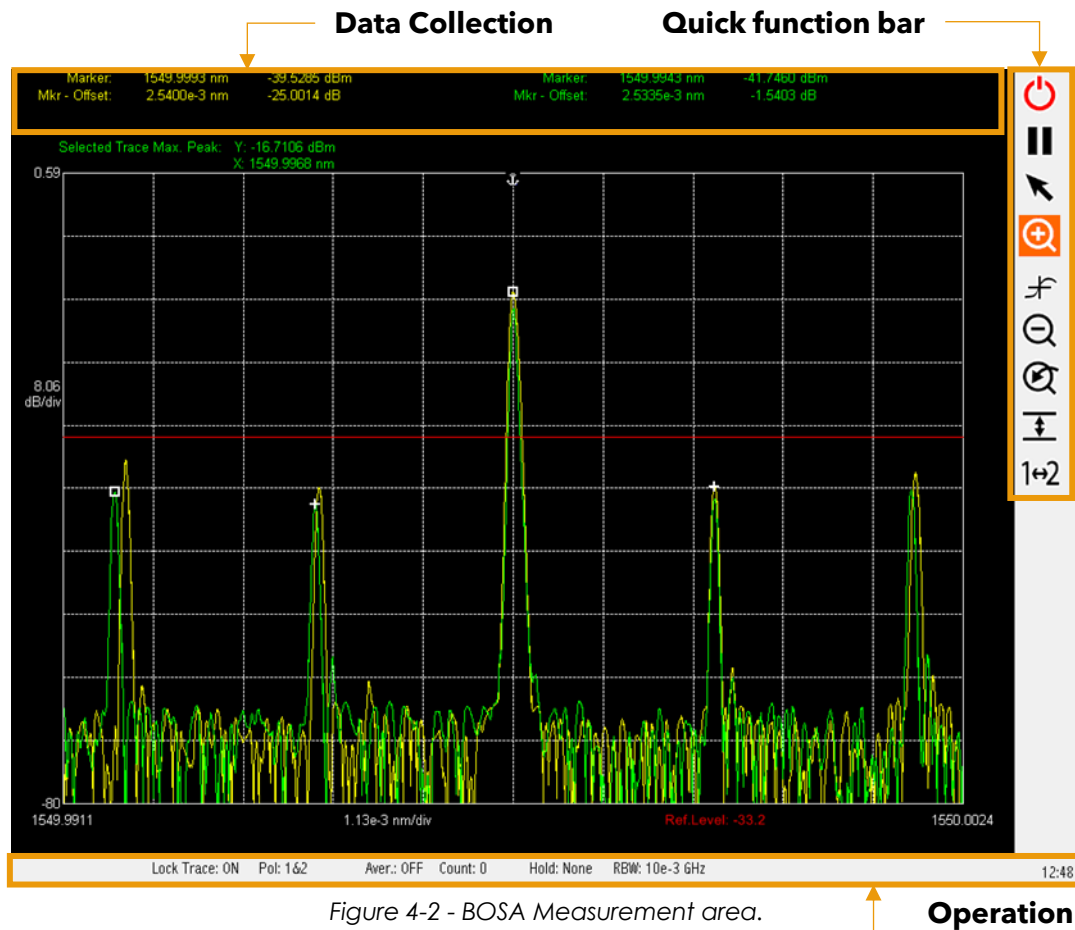

Figure 4-2 - BOSA Measurement area.
The measurement area shows the optical spectrum of the current Signal under Test (SUT). Results are offered via traces and numerical data. In Figure 4-2 the trace plotting area is represented.
- **Operation parameters area** the lower part of the measurement area shows information about the operation conditions of the system such as resolution bandwidth, polarization control, average state and hold function stage (refers to Figure 4-2). A power bar indicates the optical power level of the SUT. Any internal error will be output at the right in this area (please refer to 14.1 Error Messages for details).